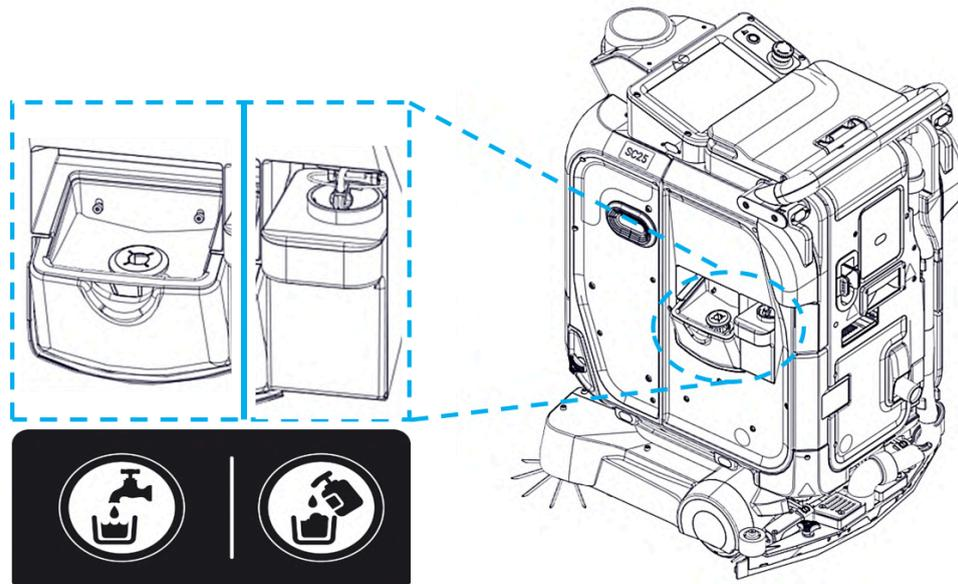

FIGURE 8-11
1. Use the preferred method of filling up the tank via Manual Top-Up Tray (6) (**Fig. 8-11**).
2. Fill up Chemical Tank (7) if necessary (**Fig. 8-11**).